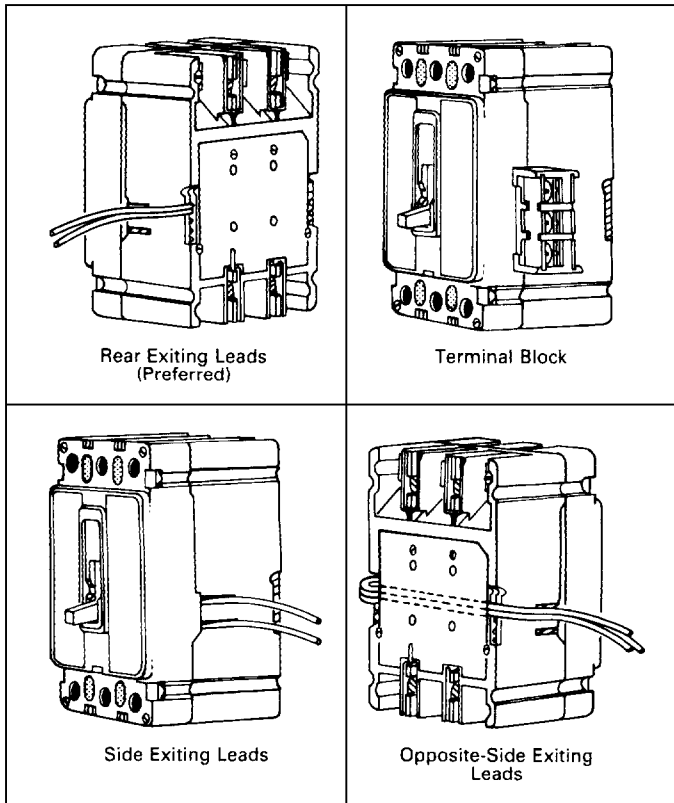

Fig. 2-3. Accessory Wiring Options
- 2-6. Route wiring to meet installation requirements (see Fig. 2-3).